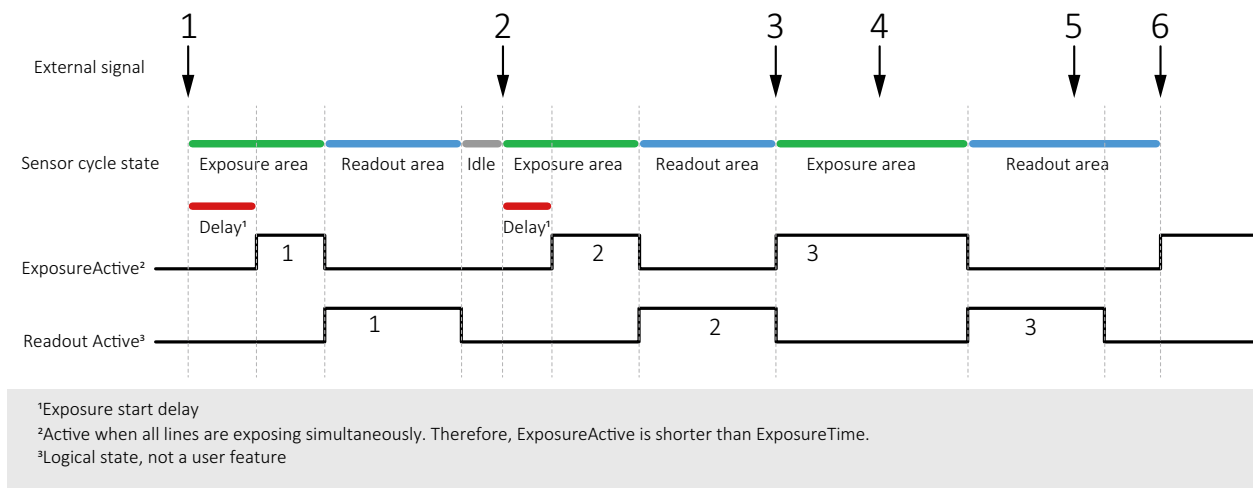

Figure 109: Triggering rolling shutter (RS) cameras
This section describes triggering behavior for **1800 U-500m/c, U-501m NIR, U-1240m/c, and U-2050m/c**. Figure 109 shows how an external signal triggers exposure and readout for cameras with rolling shutter (RS) sensors. Like for global shutter (GS) sensors, readout has a constant duration, acquisition must be active to enable exposure, the end of exposure starts readout.